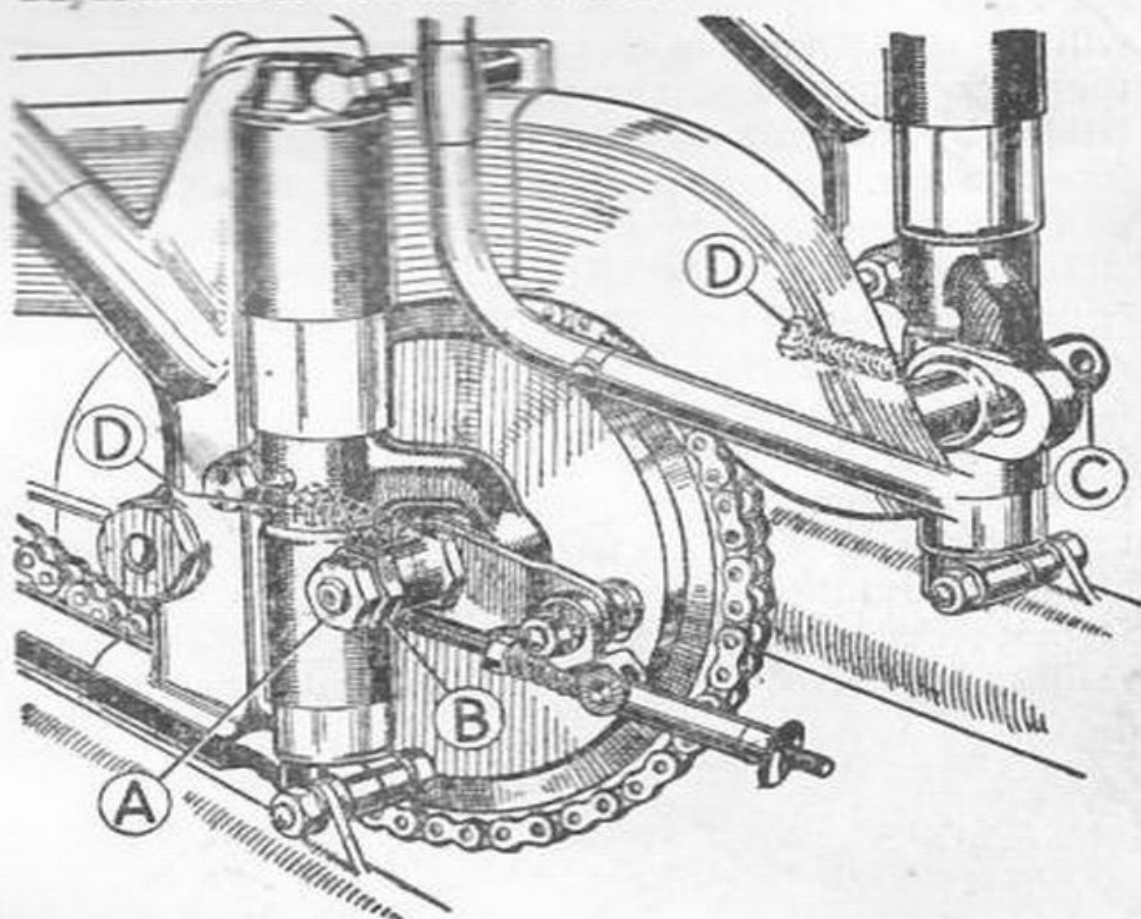

Fig. 17. Rear Chain Adjustment
*Set the machine on its stand.* The rear wheel must be in its lowest position in the suspension unit, for the purposes of this adjustment. (See Fig. 17).